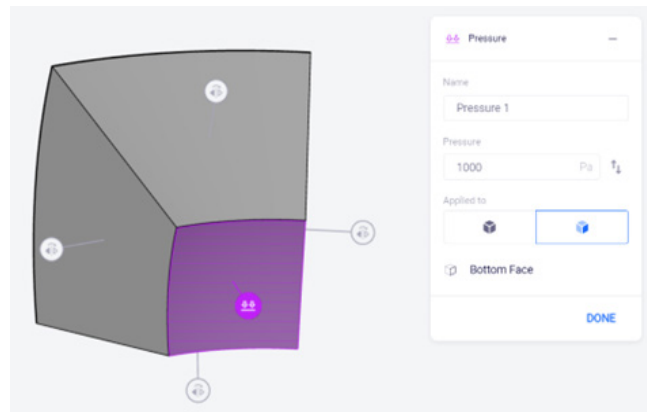

Figure 8: Using the Pressure tool on the inner surface of the sphere
Step 2: Select the pressure tool and apply a load of 1000Pa to the inner face as shown in figure 8.